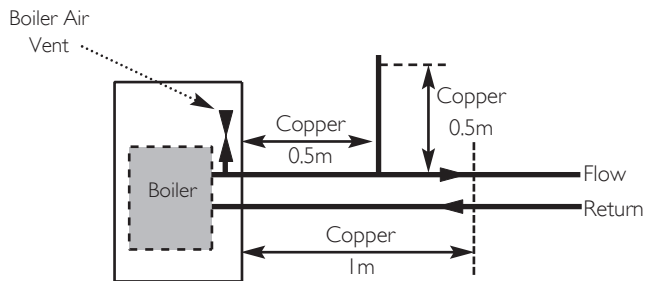

Fig. 9
5. In systems using non-metallic pipework it is necessary to use copper pipe for the boiler Flow and Return. The copper must extend at least 1 metre from the boiler and include any branches (Fig. 9).